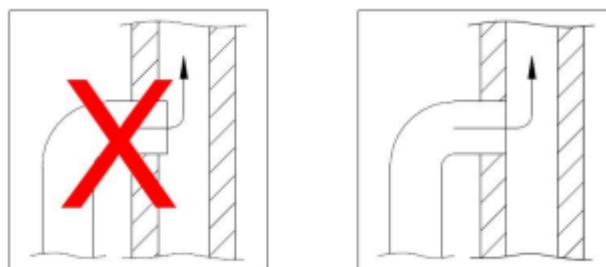

Fig. 5
- When connecting the bricks through the chimney, connect the smoker pipe to the chimney and attach the smoker pipe to the internal opening of the chimney. The flue should not pass through the chimney opening itself and should be flush with the inside of the chimney pipe. As shown in fig. 5, the connection between the brick masonry and the smoke pipe must be sealed with fire-resistant material or refractory layers.